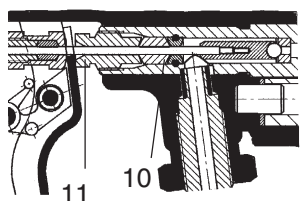

Figure 10
1. If there is evidence of material leakage past the front seal (10) lightly tighten the packing nut (11) with the universal wrench. Fig. 10